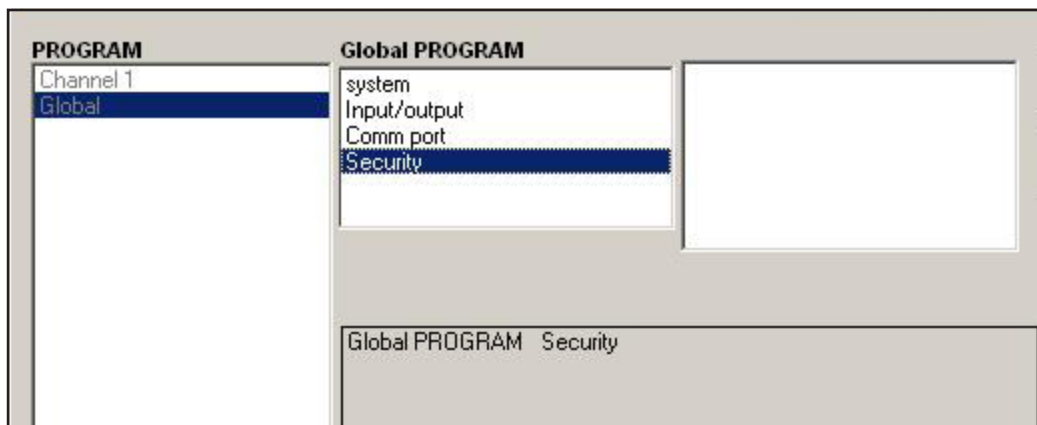

Figure 46: Global Menu with Security Option Highlighted
1. In the *Site Data Menu*, double-click on the Global entry. If the system is unlocked, the window appears similar to Figure 46 below. Highlight and double-click on the Security option in the center pane.